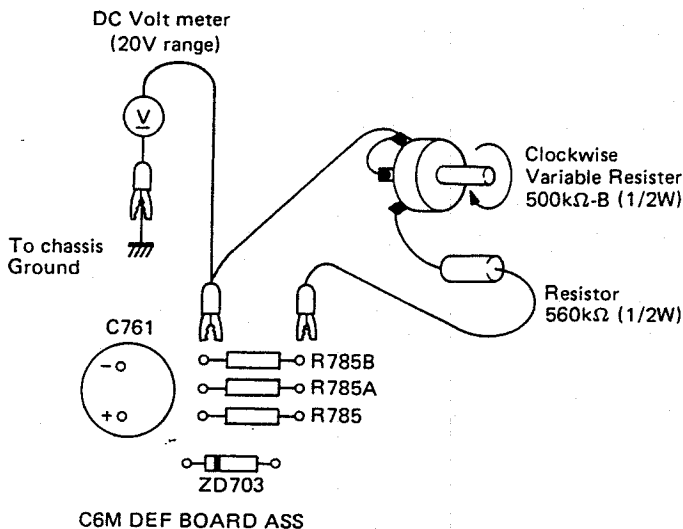

Fig. 2 Checking Circuit using jig
3. Connect a DC Voltmeter and an adjustment jig as shown in Fig. 2.